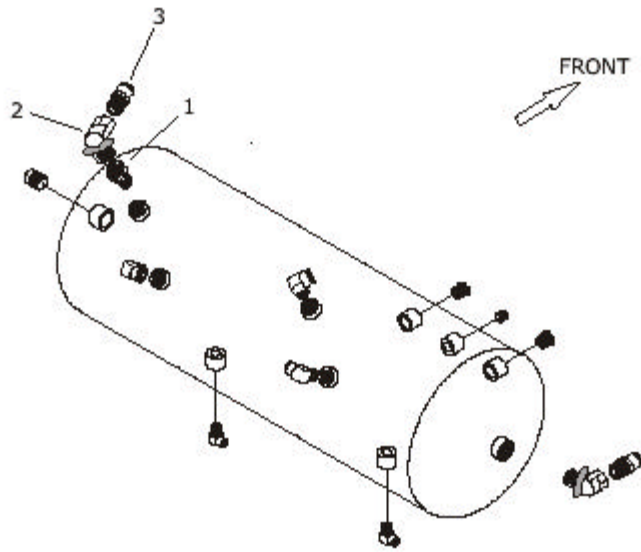

FIGURE 1
7. Accessing the tank from the left front wheel housing area, remove 3/8" red line from quick connect fitting on top rear of tank. Reference **FIGURE 1**.